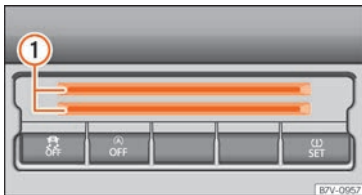

Fig. 184 Lower part of the centre console: space for cards.
To the bottom of the centre console there is a compartment » **Fig. 184** ① for coins, cards, car park tickets and similar items.